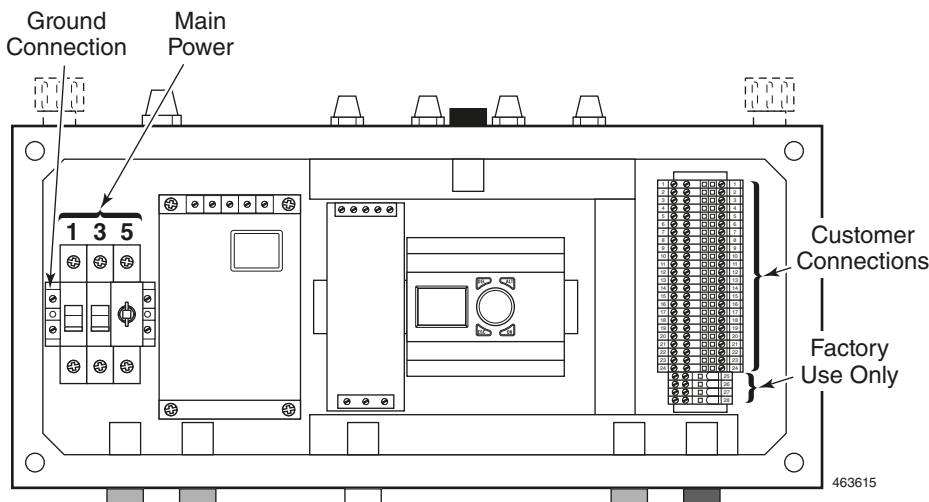

Figure 21
1. Install conduit and wire from the breaker panel to the left side of the control panel. See *Figure 21*.
See *Figure 21*.
Door control signal wiring is done at the terminal blocks located inside the Control Panel, on the right side. See *Figure 21*. There are many signals used to control the door Operator. The most common are pull cord switches or stations, three button stations (i.e. open, close, stop) and radio control. All three may be used separately, in combination, or all together. The control circuit is 24 VDC. Consult local electrical codes before proceeding with permanent installation.
7. Connect the wires of one of the pull cord switches to terminal blocks #5 and #9. See Figure 21.
Connect Input/Output wires in a manner similar to the pull cord wires (above). Refer to the *Terminal Blocks* section of the *R-Plus Doors ICC-5 Operator Quick Reference* manual and to the *Input/Output Guidelines* sheets to know where and how to connect these devices. See Figure 21.